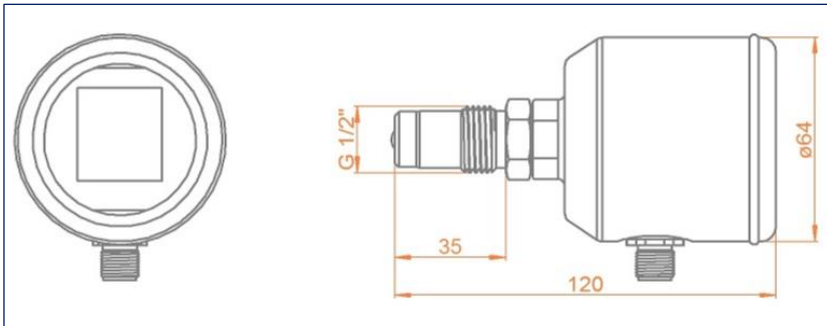

Fig. 1: Sensor dimensions
2. Attach plugs at 4 evenly-spaced points (Fig. 1 below)